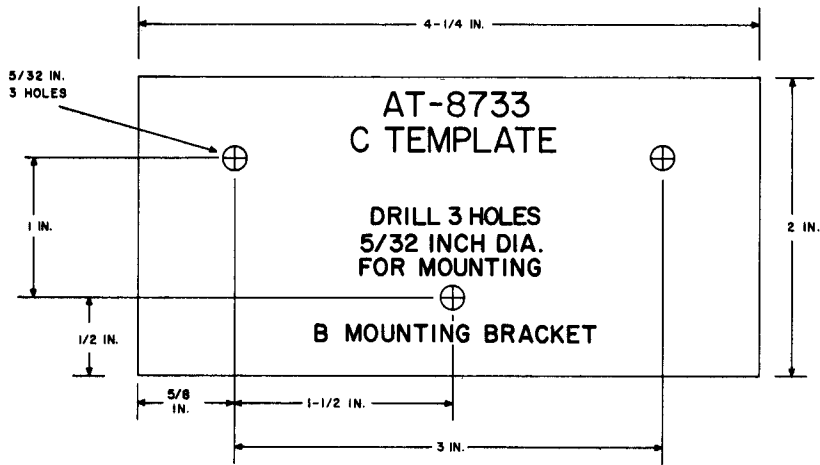

Fig. 15—C Template
- Template, C (for use on RV, Fig. 15)
2.10 The C template (Fig. 15) is used by the customer to locate the pilot holes on the recreational vehicle for the three thread cutting screws used to mount the B mounting bracket. It is printed on index card stock and packed separately from the B mounting bracket so that mounting holes may be prepared prior to bracket installation.
- One C template used to drill holes for mounting bracket on vehicle (Fig. 15)